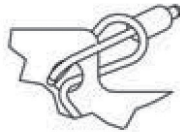
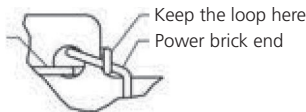

Figure 4-5. Insert the plug end of the wire through the loop.
Figure 4-6. Make sure the loop is on the side of the divider, not on top of it.
**Step 3.** Insert the loop created in Step 2 through the rear small hole at the top of the divider (Figure 4-4). Then, place the plug end of the wire through the loop (Figure 4-5). Make sure that the loop is on the side of the divider (not on top of it—see Figure 4-6). This will ensure that the divider will slide back into the cart. Then, tighten the loop down to the divider, tightening the knot.